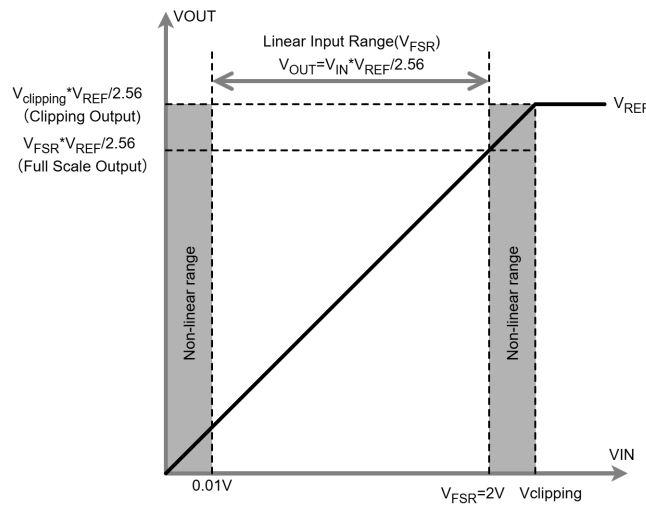

Figure 8.2 Input to Output Transfer Curve of the NSI36C11R
- When VREF is connected to an external reference voltage above 3V, the NSI36C11R has a dynamic output voltage range proportional to the voltage of VREF. The input to output curve is shown in Figure 8.2.